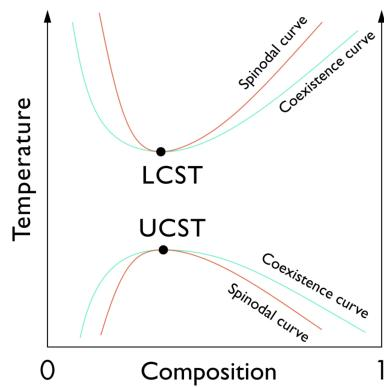

Figure 2.13: The upper and lower critical solution temperatures.
- Some systems, such as the idealized one sketched in Figure 2.13, exhibit both (or more/other!) types of behavior.